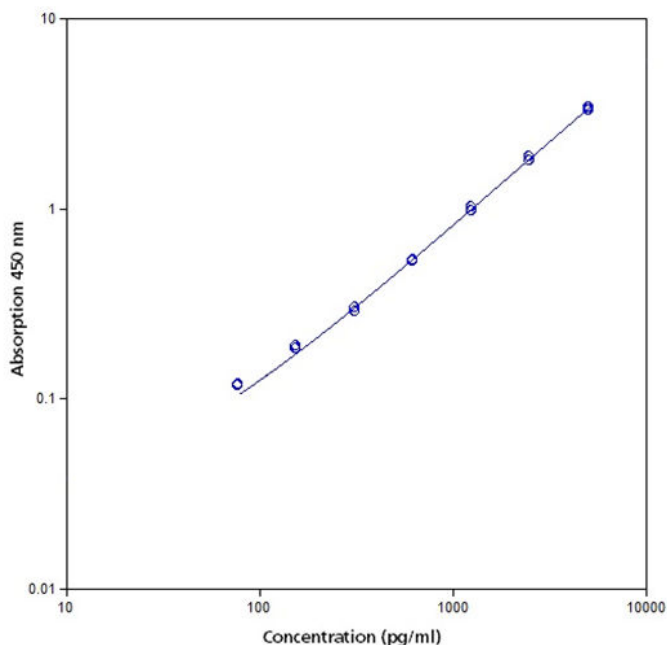

Fig. 8 Representative standard curve for human Arginase-1 ELISA. Human Arginase-1 was diluted in serial 2-fold steps in Sample Diluent.
- A representative standard curve is shown in Figure 8.